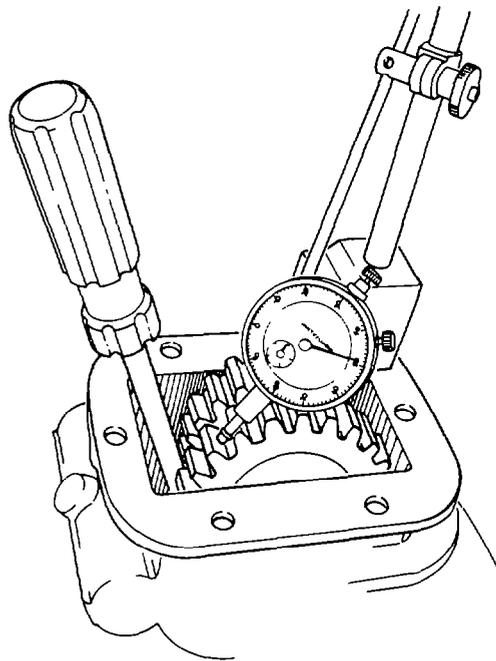

Fig. 403 — Checking Adapter to PTO Backlash
- y. Install a dial indicator and check that the adapter gear backlash is 0.025 – 0.375 mm (0.010 – 0.015 in.) while holding the PTO driven gear with a screwdriver (see fig. 403). Add or remove gaskets as necessary to obtain the correct reading. Remove the dial indicator.